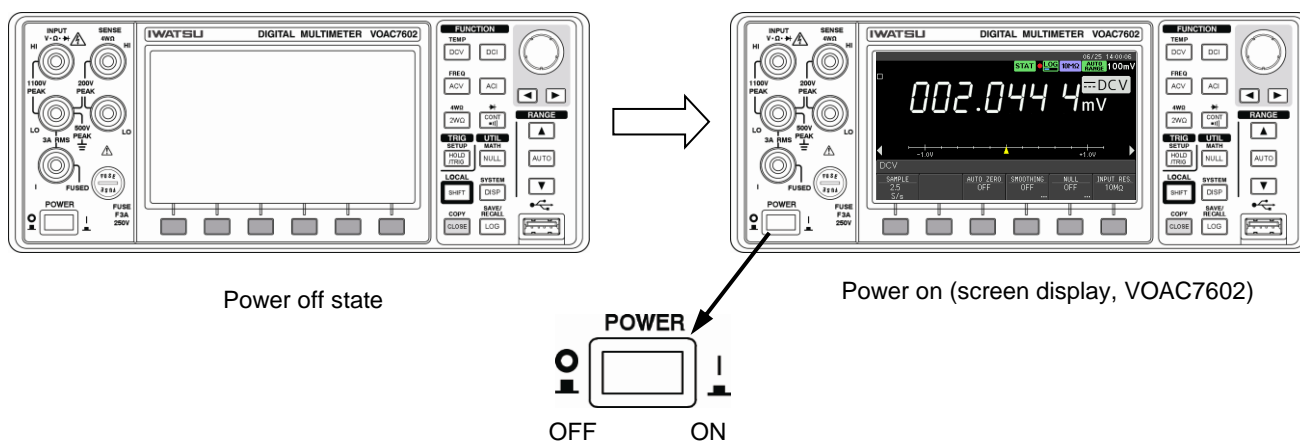

Figure 3.3 Powering-on/off
- ③ Press POWER switch on the lower left of the front panel (in Figure 3.3) to turn it ON (I state: switch is concave). The initial setting state screen (factory setting state at the first powering-on after delivery) appears several seconds after powering-on. After that, if the previous settings are to be memorized at powering-on, select LAST in SETUP SAVE/RECALL/POWER ON RECALL/MODE menu (see Section 4.7).
- ④ To power OFF, press POWER switch (● state: switch is convex).